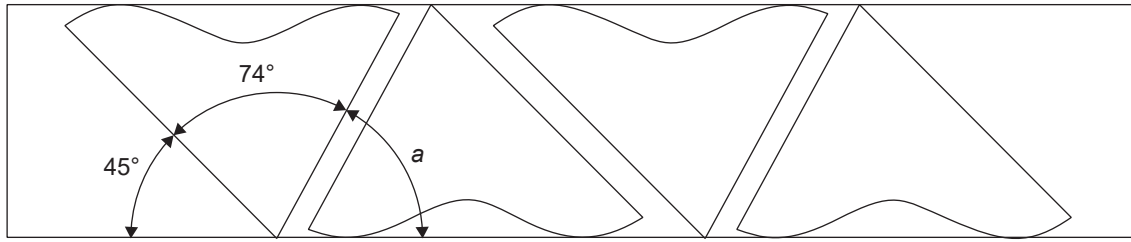

Figure 4
- a. What angle, a , should a drop saw be set to when cutting the corner blocks shown in Figure 4? Show your working. 2 marks